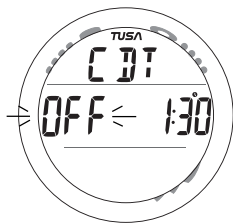

Fig. 97 - FREE CDT SET
- Pressing and releasing the A button momentarily (< 2 sec) will save the Seconds Set Point and revert to the CDT Status screen with the graphic OFF (flashing) in place of the graphic SET (Fig. 97).